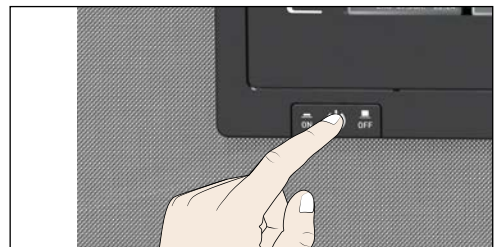

Fig. 19 Switch off appliance
3. Switch off the appliance (Fig. 19).